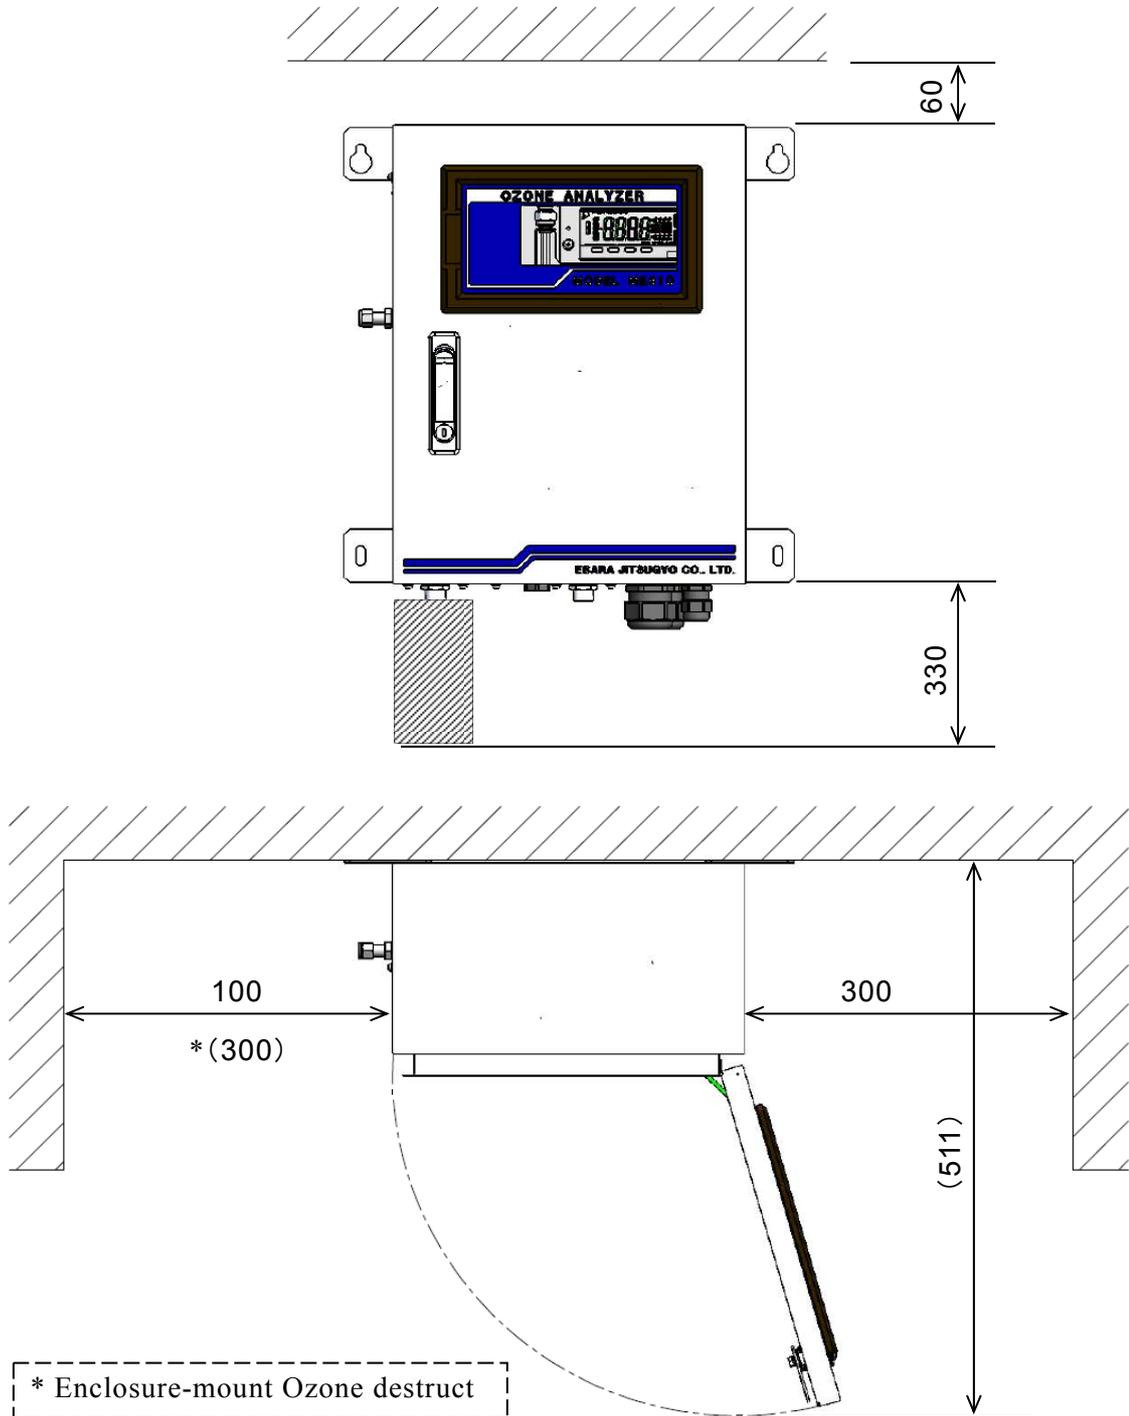

Figure-2 Maintenance space
Install the analyzer in a place where sufficient maintenance space is allowed as shown in Figure-2, piping and wiring can be installed, and maintenance can be performed easily. Select a sturdy and stable wall or anchor that can endure the weight of the analyzer, and select a place where the analyzer can be mounted vertically without fail.
* The maintenance space shown in Figure-2 illustrates the minimum required space not including piping and wiring installation space. Install the analyzer, taking these conditions into consideration.